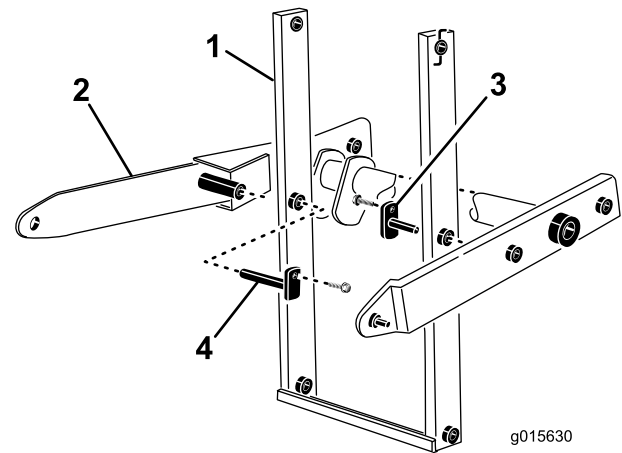

Figure 16
14. Install the short and the long welded mounting pins through the arm assembly and the main-lift-arm assembly (Figure 16).